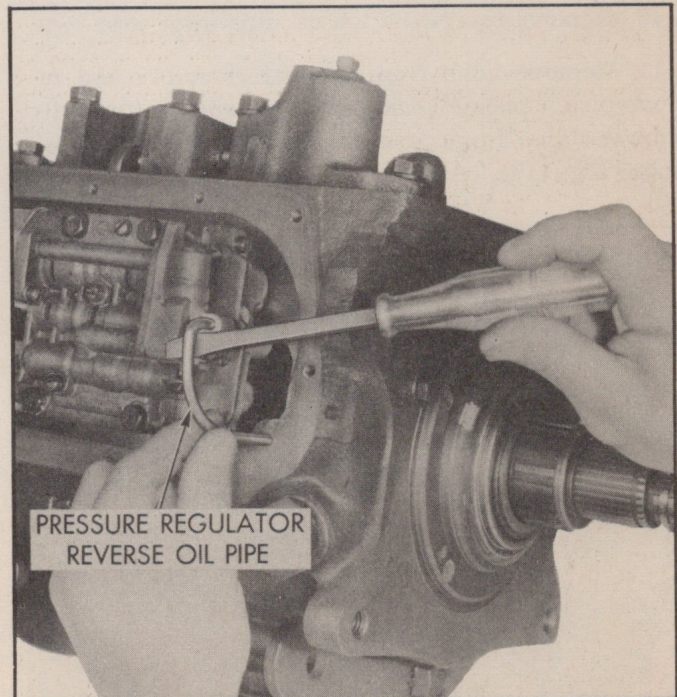

Fig. 115—Removing Pressure Regulator Reverse Oil Pipe
3. With screw driver remove pressure regulator reverse oil pipe (Fig. 115). (Use very light pressure to avoid bending oil pipe.)